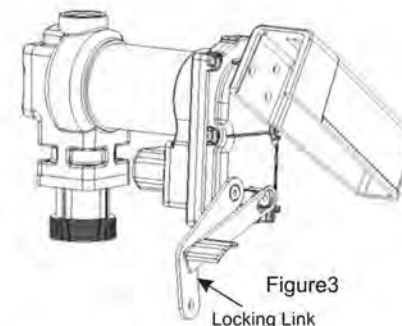

Figure 3
3. Mount the pump on the adapter; making sure the seal and screen are installed as shown. (Figure 3)
The locking link is located on the nozzle side of the pump, and can be pivoted into position to work with a variety of nozzles (Figure 3).